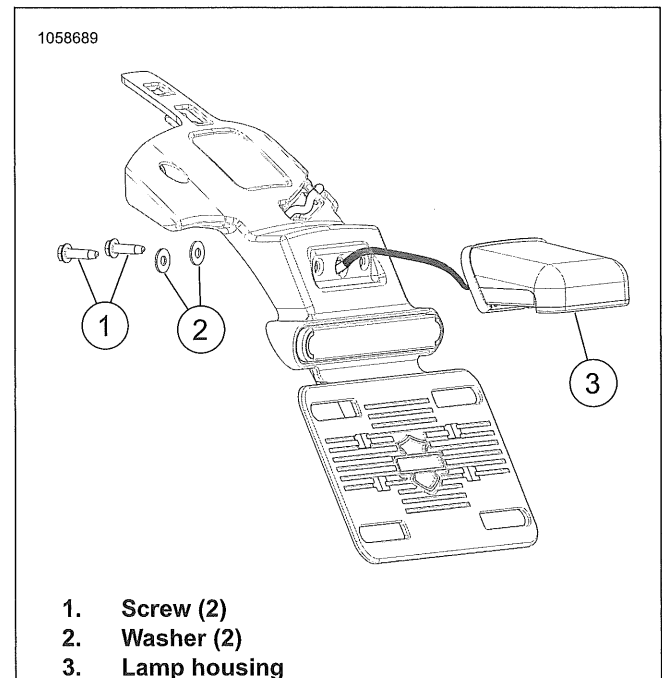

Figure 7-103. Center Mount Lamp Housing (Typical)
5. See Figure 7-103. Remove screws (1) and washers (2).
6. Remove lamp housing (3).
1. See Figure 7-103. Install lamp housing (3).
2. Install screws (1) and washers (2). Tighten.